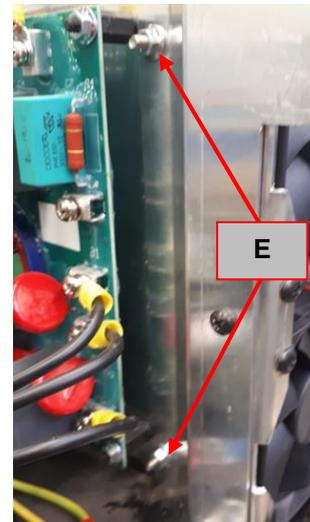

Figure 46
10. Using the 7mm wrench remove the 2 bolts (**E**). See **Figure 46**